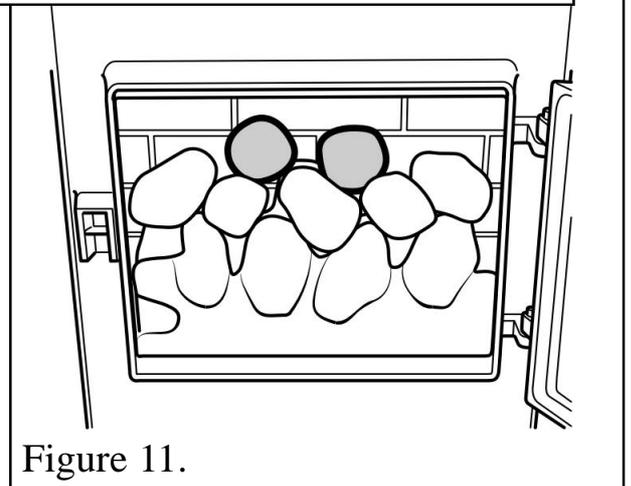

Figure 11.
7. On the front of the burner there is a bracket for supporting the front ceramic base. At the rear of the front ceramic base is a recess. Fit the front ceramic base piece locating the recess onto the forward projecting part of the burner bracket (See figure 11).
**11.** Locate the two ceramic coals identified with a number '3' as in figure 11.